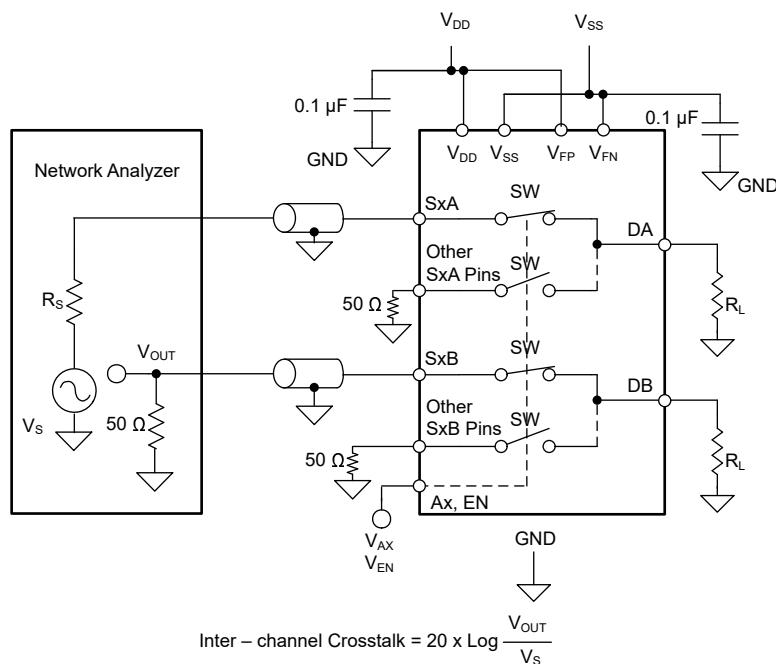

Figure 8-16. Inter-Channel Crosstalk Measurement Setup
2. Inter-channel crosstalk ($X_{TALK(INTER)}$): Figure 8-16 shows the voltage at the source pin (S_x) of an on-switch input, when a signal is applied at the source pin of an on-switch input in a different channel. Inter-channel crosstalk applies only to the TMUX7349F device.